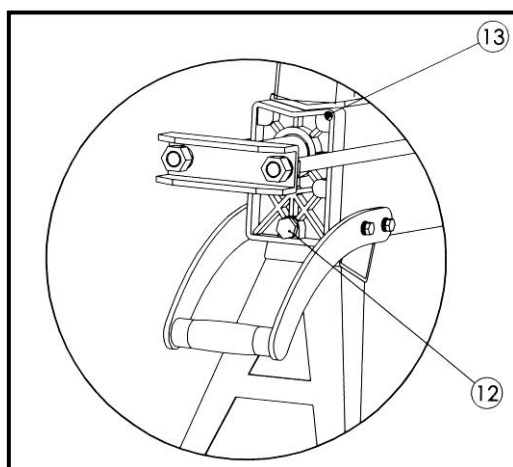

Fig. 3
Before operating the log splitter, the Bleed Screw (13) Fig. 3, should be loosened by some rotations until air can go in and out of the oil tank smoothly.